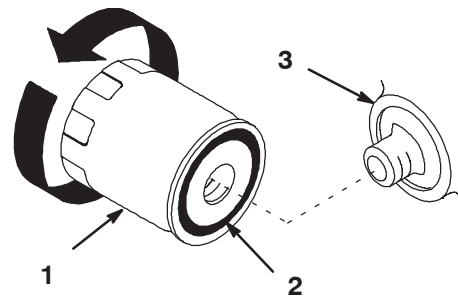

Figure 47
2. Remove the old filter and wipe the filter adapter (Fig. 47) gasket surface.
4. Apply a thin coat of new oil to the rubber gasket on the replacement filter (Fig. 47).
5. Install the replacement oil filter to the filter adapter. Turn the oil filter clockwise until the rubber gasket contacts the filter adapter, then tighten the filter an additional 1/2 turn (Fig. 47).